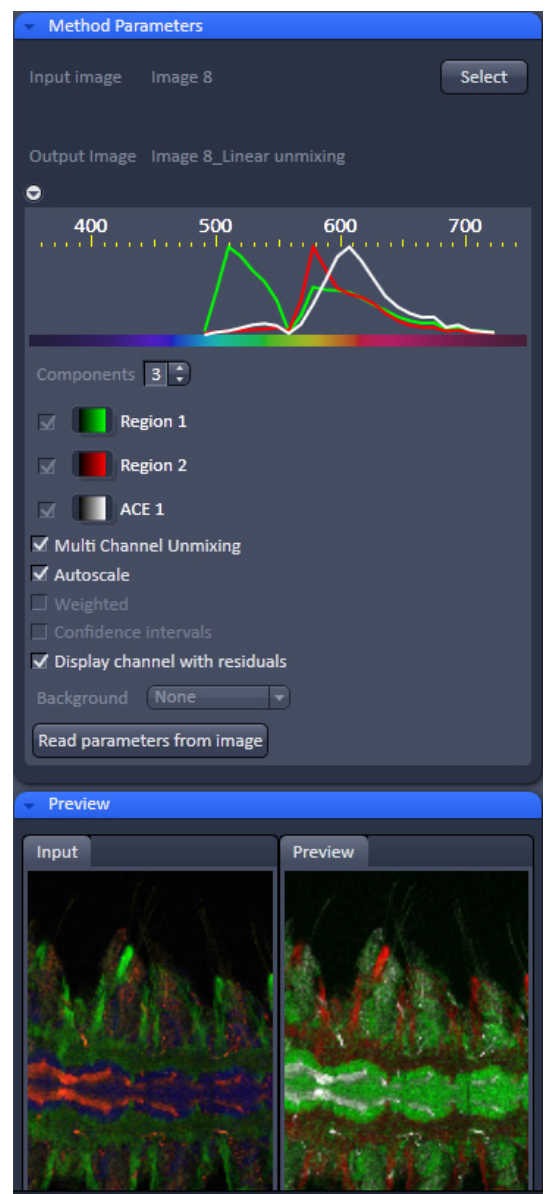

Fig. 390 Linear unmixing panel
- In the **Linear Unmixing** panel (Fig. 390) the number of spectrally distinguishable fluorescent components of the imaged sample can be selected from the **Components** selection box. The number of extractable components cannot be higher than the number of acquired channels. The ZEN software is limited to a maximum of 10 components.